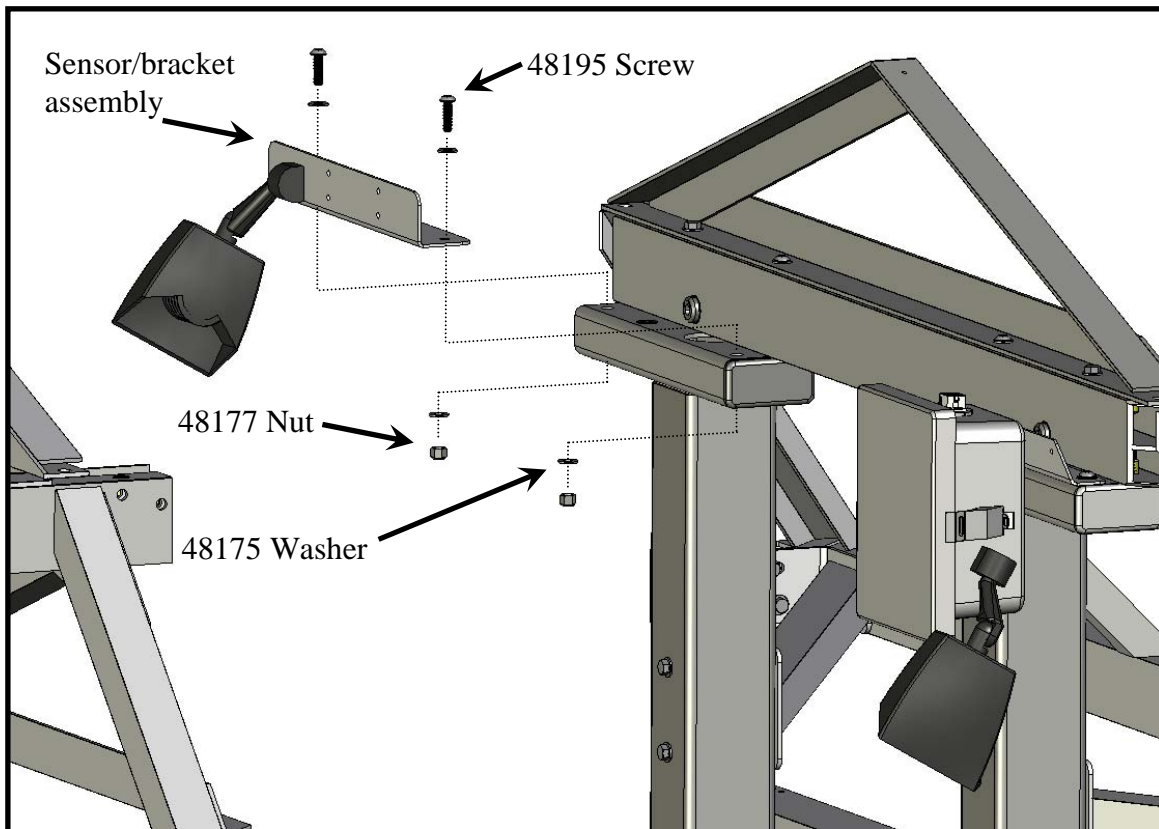

Figure 15
- f) Mount sensor/bracket assembly using (2) 48195 screws, (2) 48175 washers, and (2) 48177 nuts as shown in Figure 15.